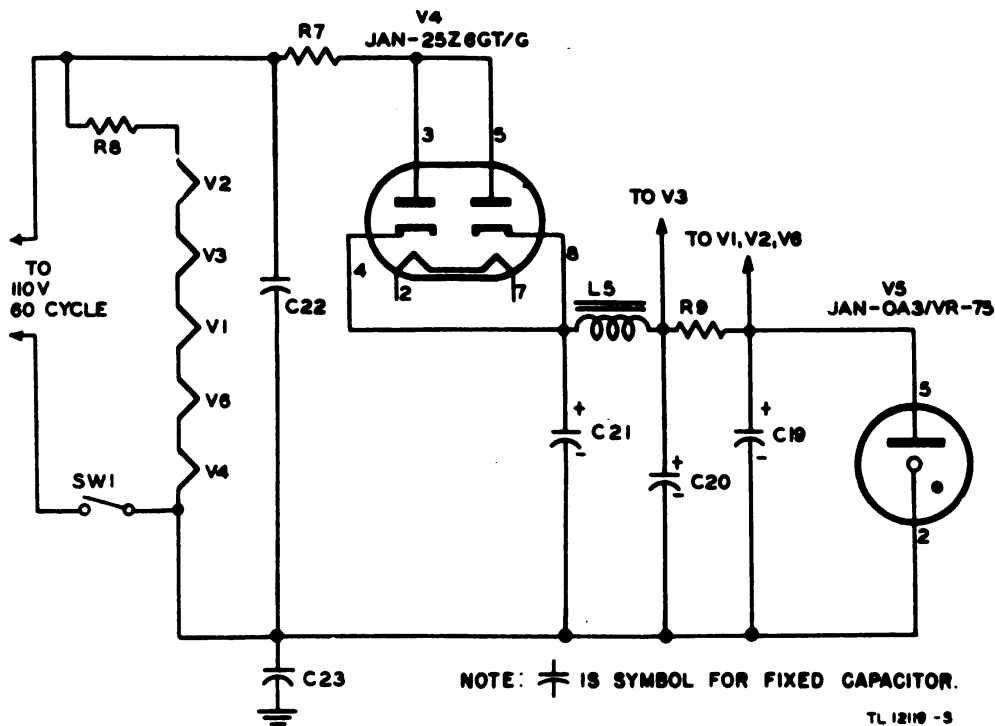

Figure 17. Simplified schematic of power supply, oscillator section.
56. POWER SUPPLY, OSCILLATOR SECTION (fig. 17).